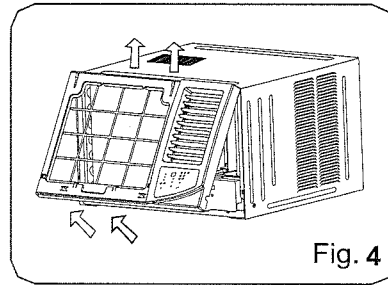

Fig. 4
- Grasp the left corner of the frame's underside, release the coupler plugs, then loosen the frame (See Fig.4).